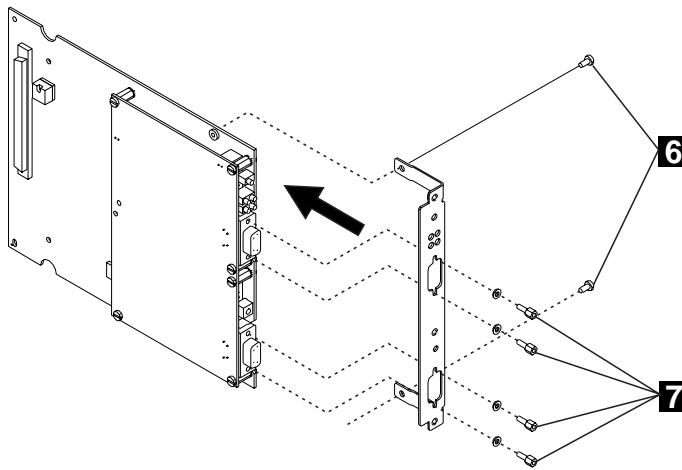

Figure 7. Attaching the Faceplate Bracket
- **7** Attach the faceplate bracket to the motherboard using the two screws (**6** in Figure 7) from the old dummy bracket.